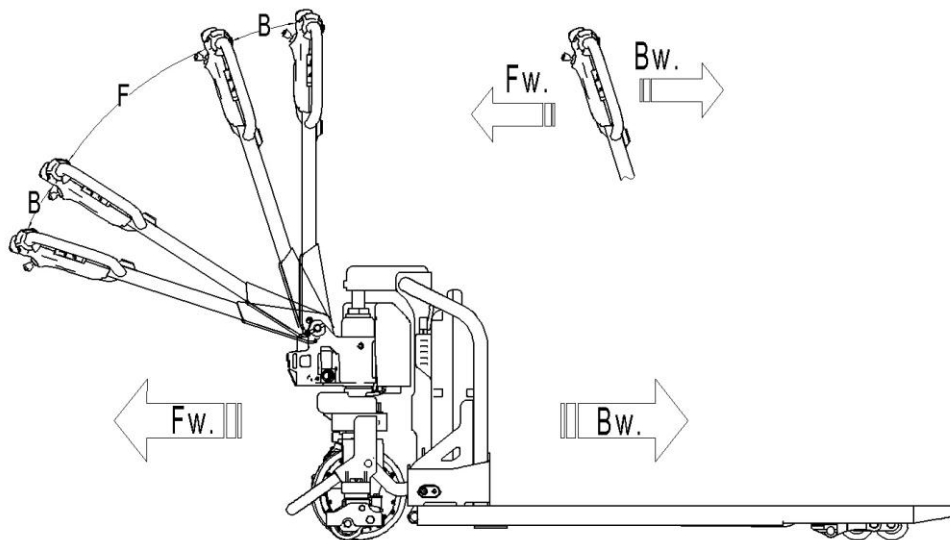

Fig. 9: Operating direction
Connect the battery plug (11), insert the key and turn the key switch (13) clockwise, move the tiller to the operating one ('F', fig.9).
Turn the accelerator button(2) to the desired direction forward 'Fw.' or backwards 'Bw.'(fig. 9).